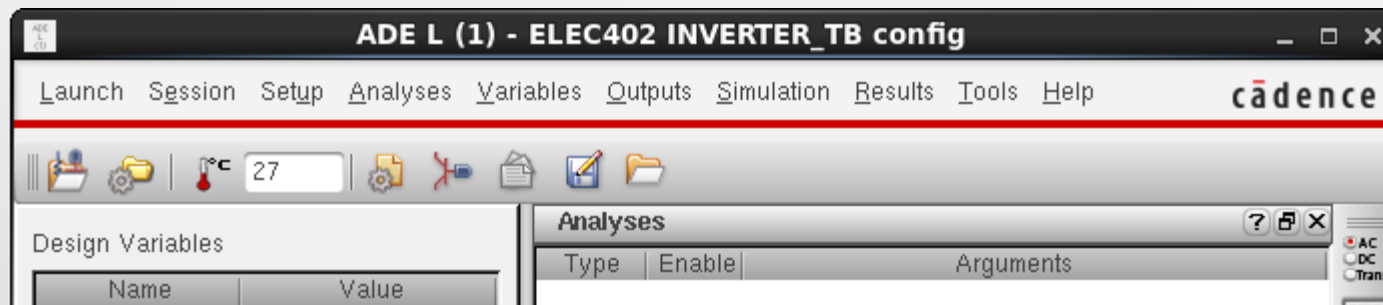

Figure 23 ADE in “config” view.
- **Note:** Always make sure that the word “Config” exists in the schematic editor window’s name, and the ADE window as well as show in Figure 23